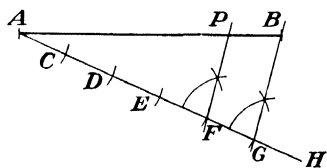

Fig. 134.
a. Draw any line, such as AH . See Fig. 134.